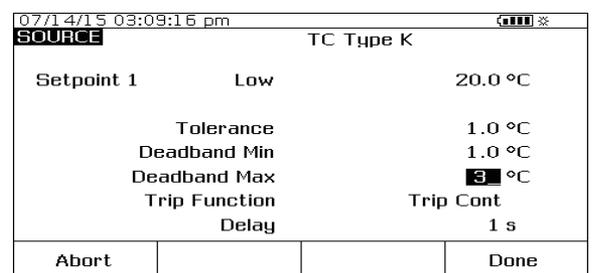

Figure 4. Test setup screen.
- c. Move the cursor to Deadband Max and enter a maximum deadband value of 3 °C. The test setup screen should now be as per Figure 4. Depress the "Done" softkey.